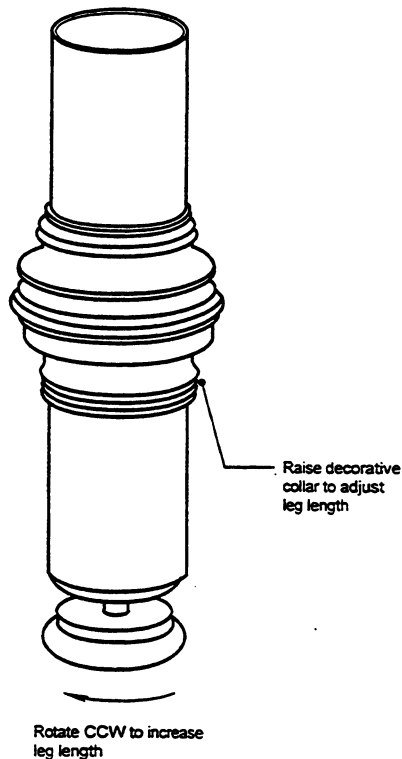

Fig. 2
- Step 6. Level the Console Top by rotating the leveling feet end pads (See Fig. 2).